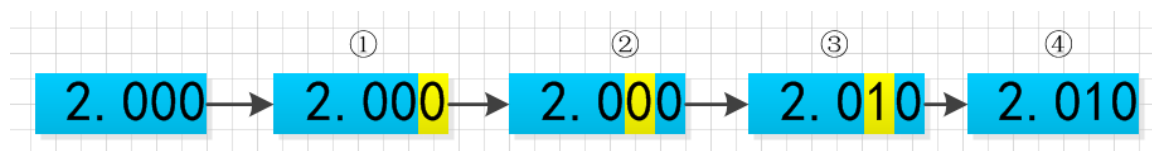

Figure 1.4.1.
- As shown in figure 1.4.1, ①Press **【Enter】** to enter the edit mode. ②In edit mode, press the arrow keys **【◀】**、**【▶】** to select the corresponding number of digits. ③Turn the knob to adjust the value. ④Press **【Enter】** or **【Esc】** to exit the edit mode. Numeric parameter setting is then completed.